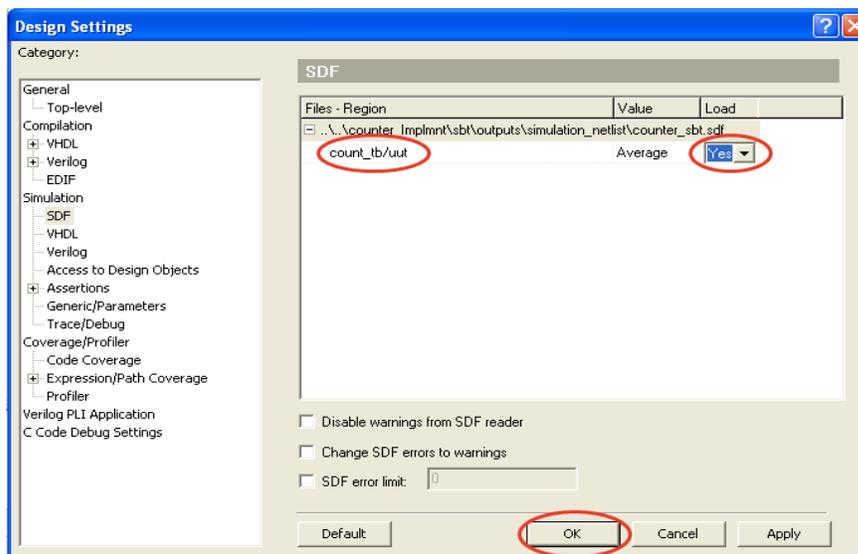

Figure 10-20 : Set SDF Options.
- After compilation select Design→Settings. This will open up the “Design Settings” Wizard. Select SDF in the category panel. Set the Region to “count_tb/uut” and change the Load option to “Yes” as shown in Figure 10-20. The SDF value selection can be set to “Minimal”, “Average” and “Maximal”. The value is set to “Average” by default. Click on “OK” icon to close the wizard.